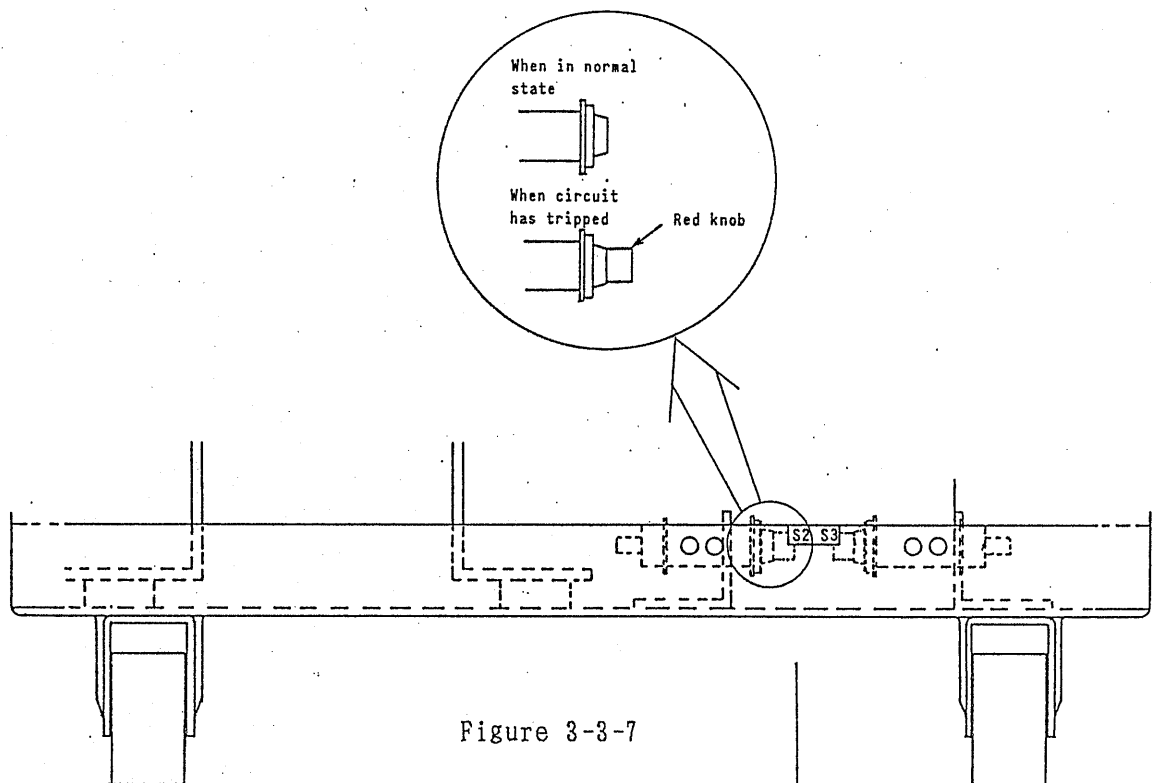

Figure 3-3-7
- (1) Remove the air filter of the air intake ④. For the removal procedure, see Section 3.3.4 [1].
- (2) The circuit protector is located at the bottom of the chassis (marked S2 and S3 near the protector). As the circuit trips, the red knob comes out. The circuit can be reset by pressing the red knob. (See Figure 3-3-7.)